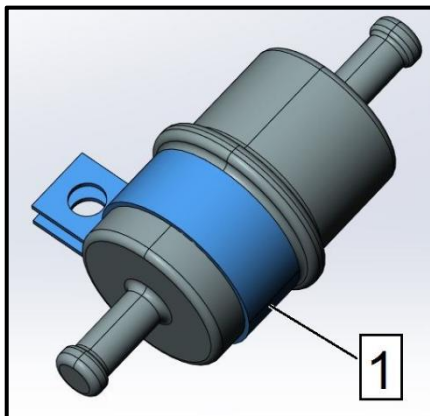

Fig. 20
12. Remove bracket (pos.1, Fig. 20) on fuel filter.